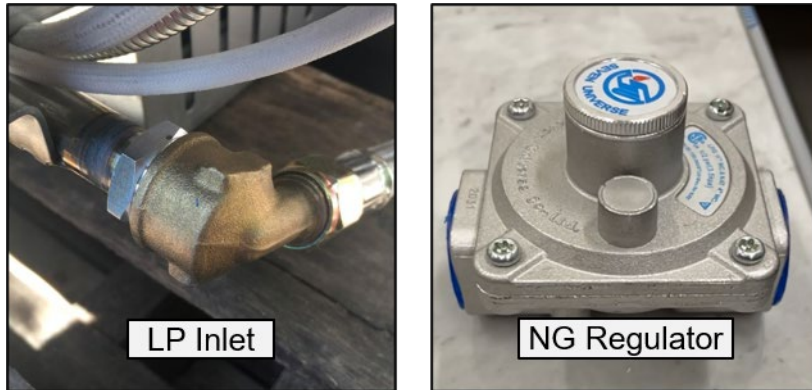

Figure 41 Gas Inlets
- LP gas inlet – 90° angled brass fitting (Figure 41 left), 1/2" opening on one side, 3/8" on the other
- NG gas inlet – regulator with 1/2" opening on each side (Figure 41 right); an arrow or the words IN and OUT should indicate the gas flow direction - If regulator is installed the wrong way it will not work and gas won't flow